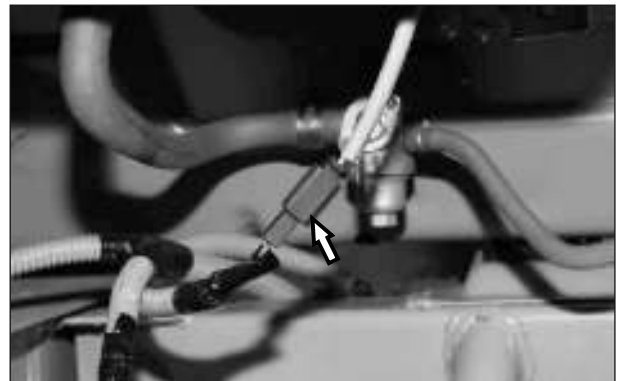

Fig. 6.28
- Set Multimeter position to continuity inspection mode then connect '+ve' probe of the multimeter to the Green with yellow tracer (GY) wire and '-ve' probe of the multimeter to Black with white tracer wire (BW) wire. (This is only available in Petrol vehicle not in LPG & CNG). Beep sound should be heard. (Fig. 6.28)